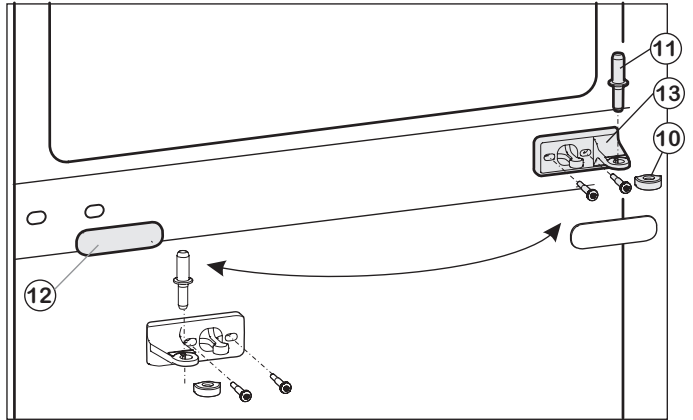
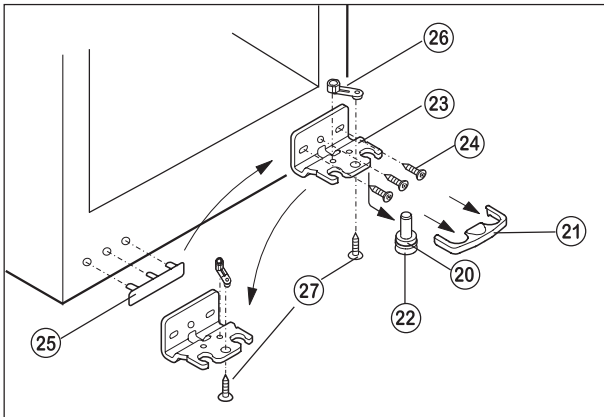

Fig. 2
Fig. 3
- Pull off the plastic cap Fig. 2 (10).
- Pull out the centre bearing bolt Fig. 2 (11).
- Pull off the cover panel Fig. 2 (12).
- Screw off the centre bearing block Fig. 2 (13) and relocate to the new hinge side by turning by 180°.
- Engage the cover panel Fig. 2 (12) on the new handle side.
- Remove the lower cover Fig. 3 (21) forwards.
- Remove the lower cover Fig. 3 (22) downwards and forwards.
In doing so, pay attention to the hinge bush Fig. 3 (20).
- Screw off the bearing block Fig. 3 (23) (3 x Torx 25) Fig. 3 (24).
- Screw off the bearing component Fig. 3 (26) (1 x Torx 25) Fig. 3 (27) and re-locate it into the opposite mounting hole, then firmly screw in again.
- Lift off and re-locate the cover on the handle side Fig. 3 (25).
- Screw the bearing block Fig. 3 (23) back onto the new hinge side.
- Place the door onto the bottom bearing bolt from the top Fig. 3 (22).
- Install the centre bearing bolt Fig. 2 (11) on the new hinge side into the lower door through the centre bearing block Fig. 2 (13).
- Place the plastic cap Fig. 2 (10) turned by 180° back onto the centre bearing block Fig. 2 (13).
- Place the upper door onto the centre bearing bolt Fig. 2 (11).
- Align the doors flush with the appliance housing possibly via the two slotted holes in the lower bearing block Fig. 3 (23) and the centre bearing block Fig. 2 (13), then firmly tighten the screws..
- Engage the cover Fig. 3 (21) again.